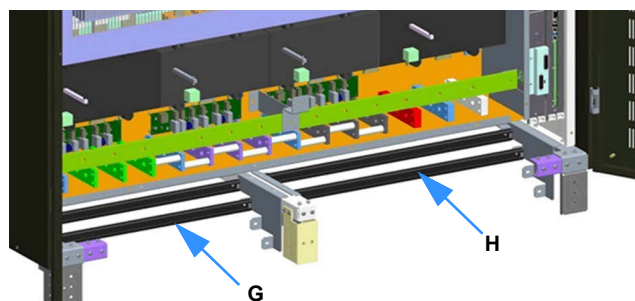

Figure 3.15
8. Fit two cable securing bars (G), (H) between the next set of lugs on profiles (A), (B), (C) as shown in Figure 3.15. Secure each bar using two M5 nuts and bolts tightened to 6.0 Nm.
Note: For reasons of clarity the cables connected to the rear holes are not shown in Figure 3.15.
Note: For reasons of clarity the cables connected to the power busbars are not shown in Figure 3.15.